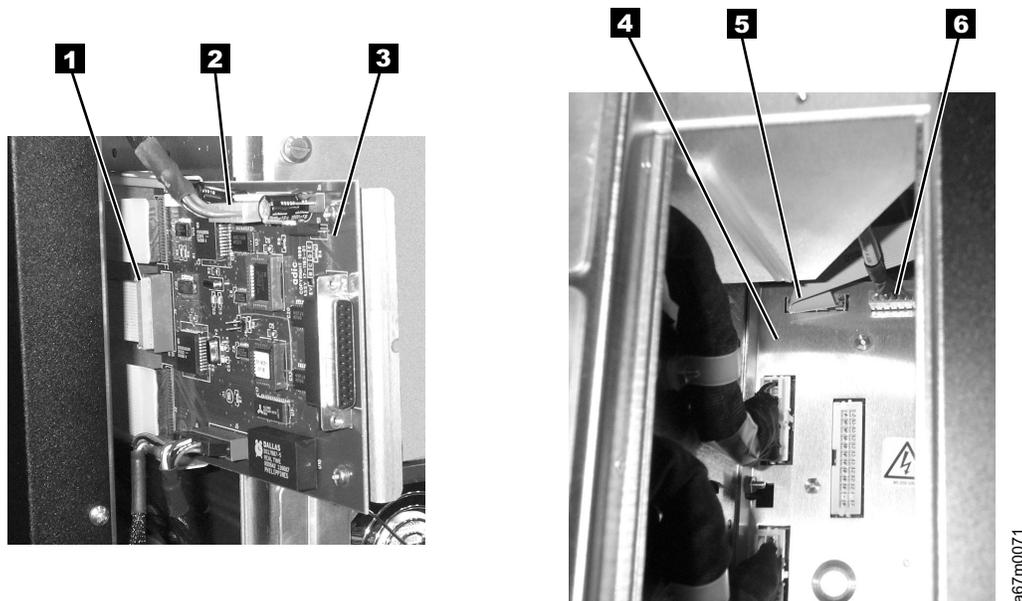

Figure 7-21. Main to Power Distribution Cables Removal and Replacement
5. Disconnect the failing cable (either Power **6** or Signal **5** Interface) from the Power Distribution Board. (See Figure 7-21).
9. (See Figure 7-21), disconnect failing cable, (Power **2** or Signal **1**), from Main Controller Board.